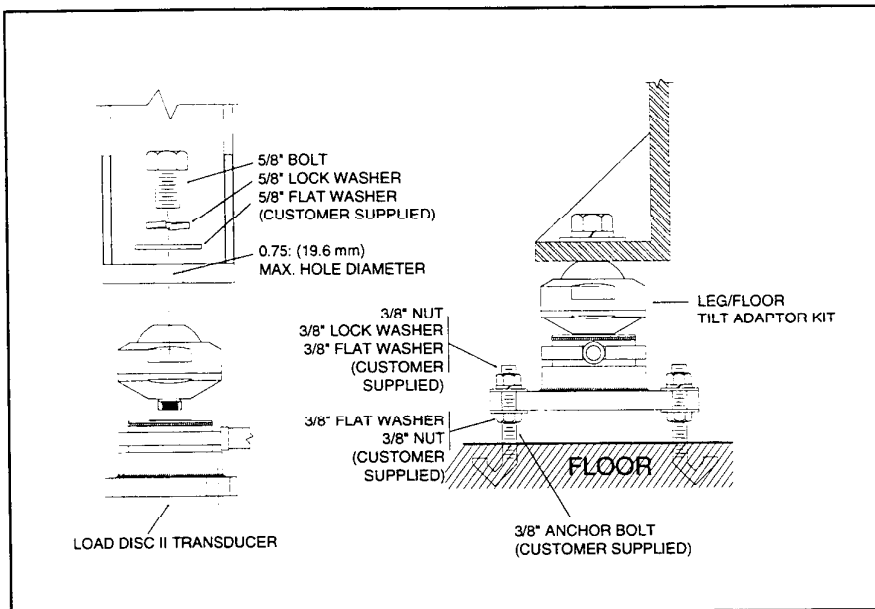

Figure 2-10. 150 lbs to 25K lbs Load Disc II Transducer with Leg/Floor Tilt Adaptor Hardware Kit.
6. Bolt the Load Disc II transducer with tilt adaptor to the leg or gusset with the 5/8"-18 bolt and lock washer (Figure 2-10). Follow Steps 3 through 6 to install all of the transducers to the vessel legs or gussets.
Kistler-Morse recommends using 3/8" 24 UNF\*, or 7/16"-20 UNF\*\* anchor bolts that are grade ASTM-A325 or stronger. The threaded length of the anchor bolts should provide enough length for the 1/2-inch thickness of the base plate, the thickness of the leveling nut and flat washer under the base plate, and the thickness of the lock washer, flat washer, and nut on top of the base plate (Figure 2-10).